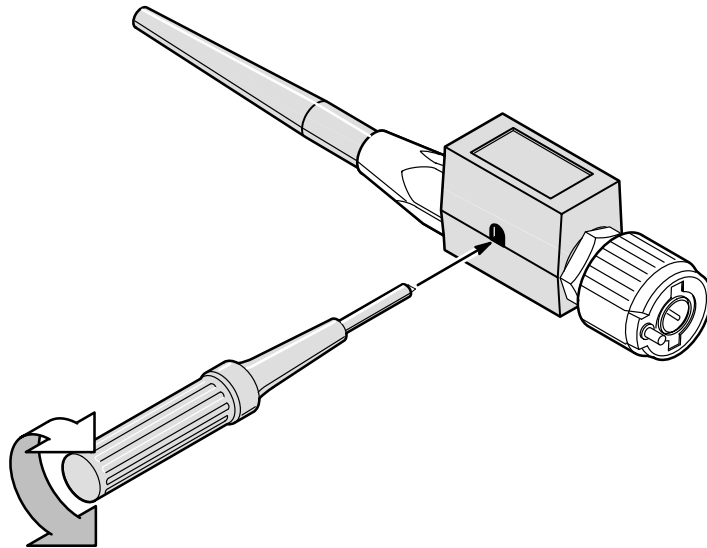

Figure 3-58: P6139A Probe Adjustment
6. Adjust the probe until you see a perfectly flat top square wave on the display. Figure 3-58 shows where the adjustment is located.